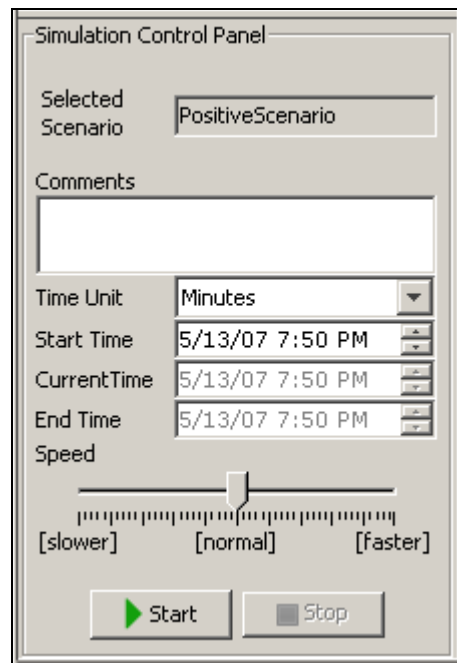

Figure 17: Simulation Control Panel
1. In the Process Simulator window, double-click the required scenario from the *scenarios* tree in the simulation entities panel. The selected scenario is shown in the **Selected Scenario** field in the *Simulation Control panel* (see Figure 17).